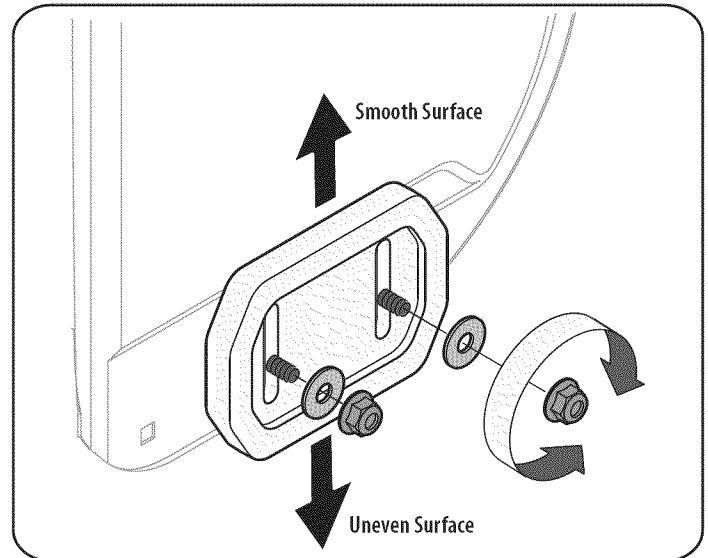

Figure 10
- For close snow removal on a smooth surface, raise skid shoes higher on the auger housing. Refer to Figure 10.
1. Loosen the four hex nuts (two on each side) and carriage bolts. Move skid shoes to desired position. See Figure 10.